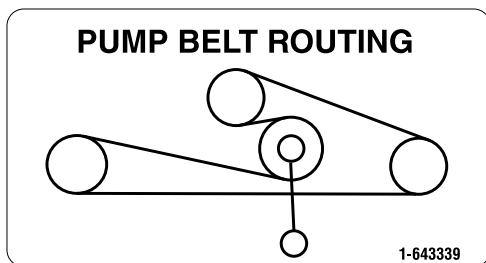

Figure 12
3. Route new belt onto sheaves as shown in the decal located on the right hand side of the left hood support (see Figure 12).